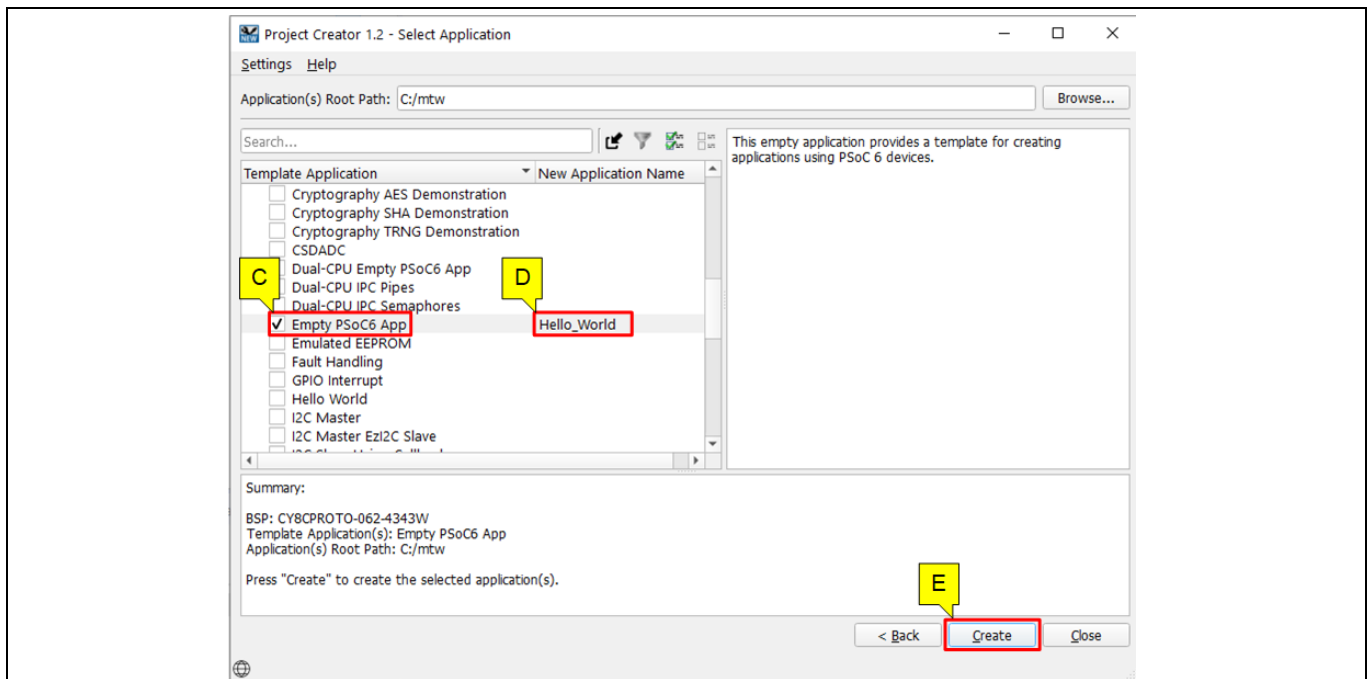

Figure 9 Choose Starter Application
- In the **Starter Application** dialog, select **Empty PSoC6 App** starter application, as **Figure 9** shows.
- Click **Create** to create the application, as **Figure 9** shows, wait for the Project Creator to automatically close once the project is successfully created.